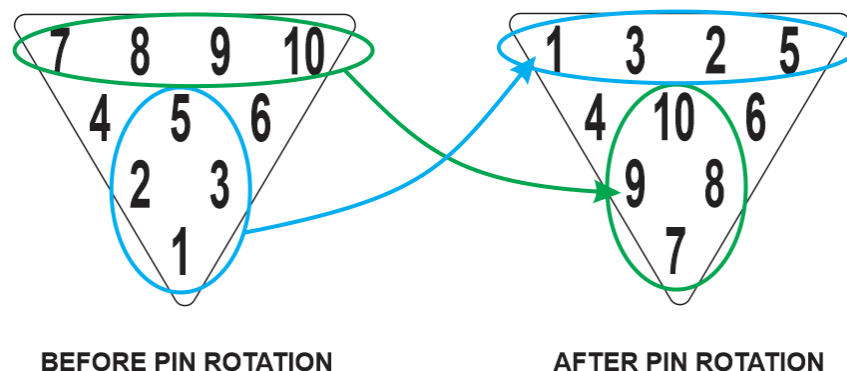

Figure 3-7b, Pin Rotation Sequence
It is recommended to replace or rotate pins as needed as part of the preventive maintenance (PM) schedule. The recommended pin rotation sequence frequency is every 12,500 frames/1.5 months. After completing the rotation sequence shown below (Figure 3-7b), continue repeating the rotation sequence or replace pins as needed.